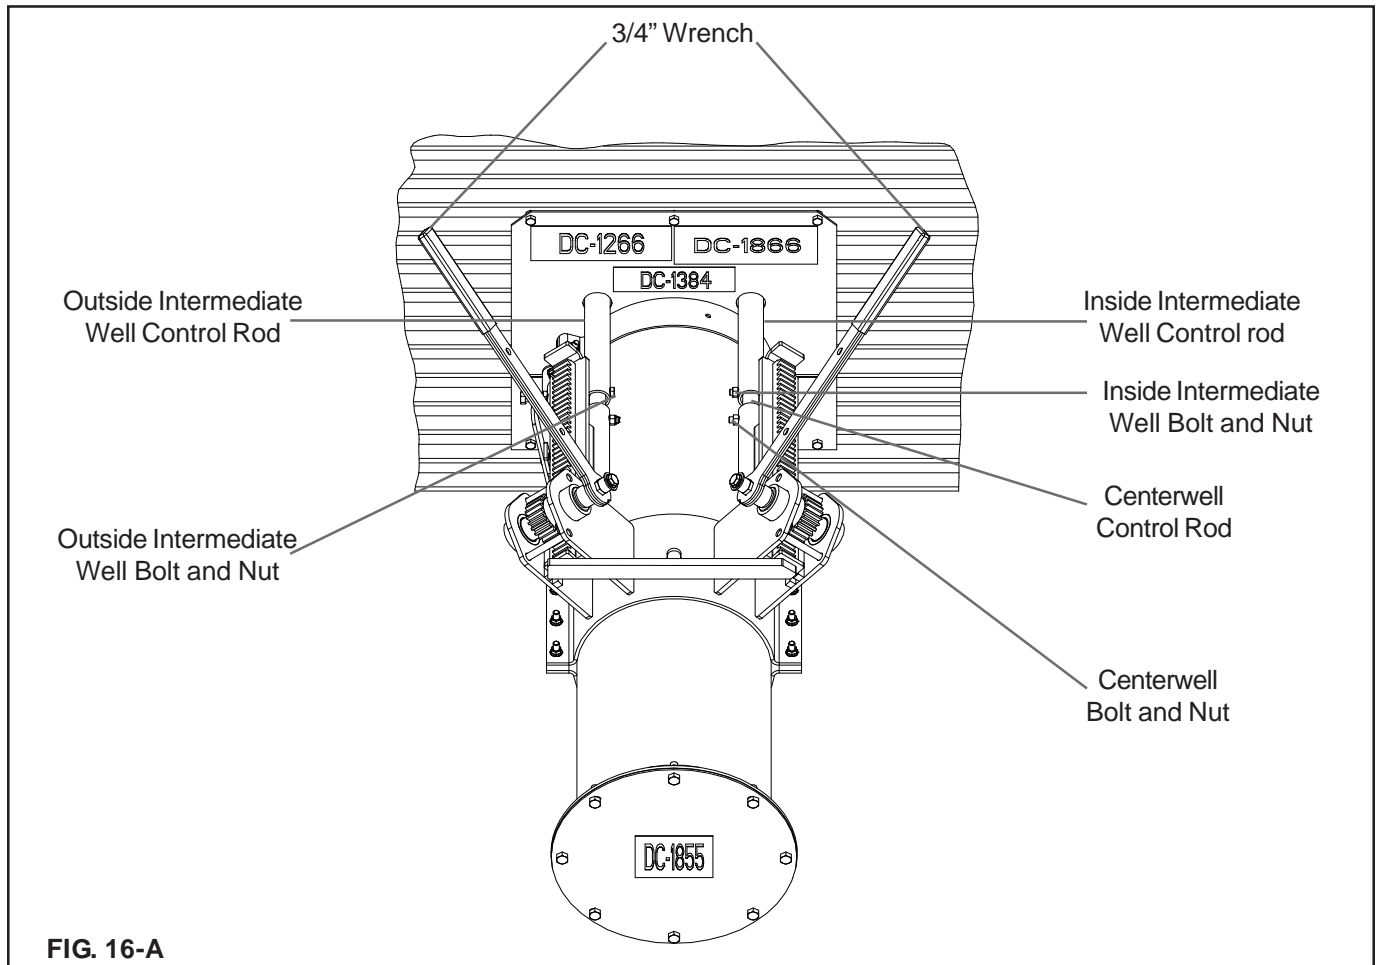

FIG. 16-A
- E. When the grain flow stops from the Centerwell, close the Centerwell Gate. Insert the Inside Intermediate Well Bolt and Nut through the Inside Intermediate Well Control Rod and the Centerwell Control Rod. The remaining grain should look like Figure 16-B.
- H. When the grain flow stops from the Centerwell and Inside Intermediate Wells, insert the Outside Intermediate Well Bolt and Nut through the Outside Intermediate Well Control Rod and the Outside Intermediate Well Adapter. The remaining grain should look like Figure 16-C.